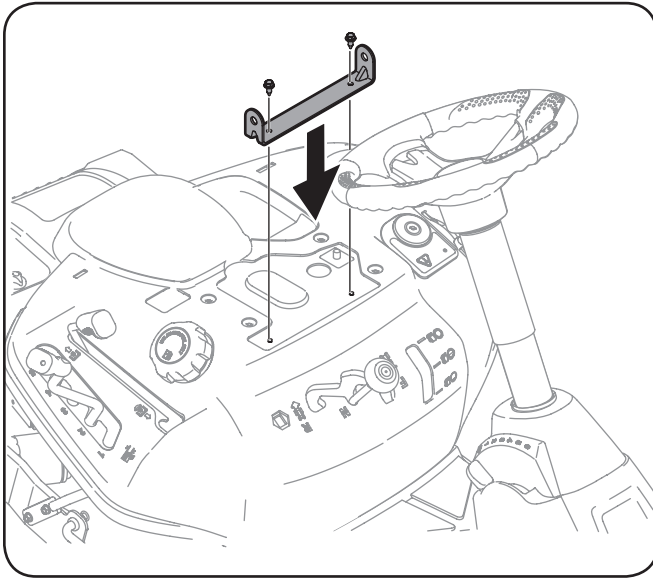

Figure 3-7
- Align the seat bracket in place over the holes from where the self-tapping bolts were removed, as shown in Figure 3-7.
- Using a 1/4-inch drive ratchet with a 3/8" socket, secure the seat bracket with the self-tapping bolts removed in step 2. See Figure 3-7.